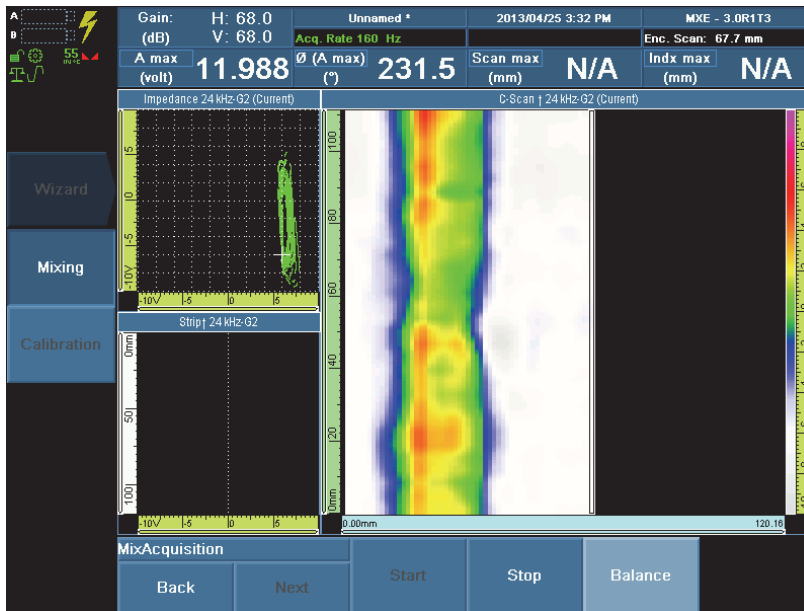

Figure 9-29 Scanning the good fastener in the Mix Acquisition step
4. Select **Start**, and then scan the tape (see Figure 9-29 on page 174).